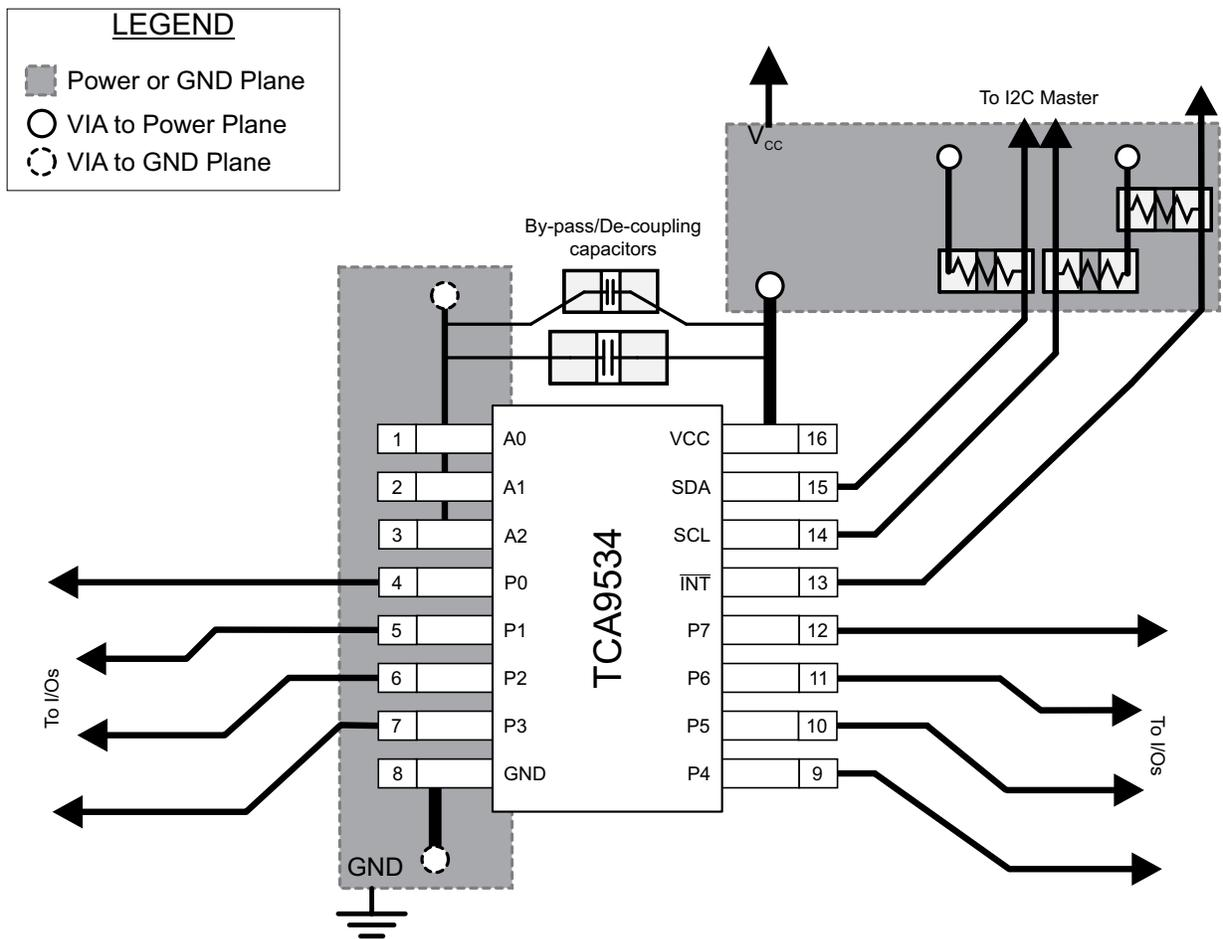

Figure 41. TCA9534 Layout
In all PCB layouts, it is a best practice to avoid right angles in signal traces, to fan out signal traces away from each other upon leaving the vicinity of an integrated circuit (IC), and to use thicker trace widths to carry higher amounts of current that commonly pass through power and ground traces. By-pass and de-coupling capacitors are commonly used to control the voltage on the VCC pin, using a larger capacitor to provide additional power in the event of a short power supply glitch and a smaller capacitor to filter out high-frequency ripple. These capacitors must be placed as close to the TCA9534 as possible. These best practices are shown in Figure 41.
For the layout example provided in Figure 41, it must be possible to fabricate a PCB with only 2 layers by using the top layer for signal routing and the bottom layer as a split plane for power (VCC) and ground (GND). However, a 4-layer board is preferable for boards with higher density signal routing. On a 4-layer PCB, it is common to route signals on the top and bottom layer, dedicate one internal layer to a ground plane, and dedicate the other internal layer to a power plane. In a board layout using planes or split planes for power and ground, vias are placed directly next to the surface mount component pad which needs to attach to VCC or GND and the via is connected electrically to the internal layer or the other side of the board. Vias are also used when a signal trace needs to be routed to the opposite side of the board, but this technique is not demonstrated in Figure 41.